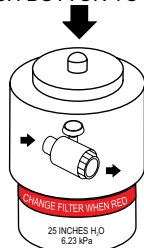

Figure 59. Air Filter Dust Indicator
The air filter indicator (Figure 59) is attached to the air filter. When the air filter element is clogged, air intake restriction becomes greater and the air filter indicator signal shows **RED**. When indicator is red, replace filter immediately. After changing the air filter, **press** the air filter indicator button to reset.
1. Use a filter wrench to remove the fuel water separator cartridge (Figure 59) from the cartridge body head.